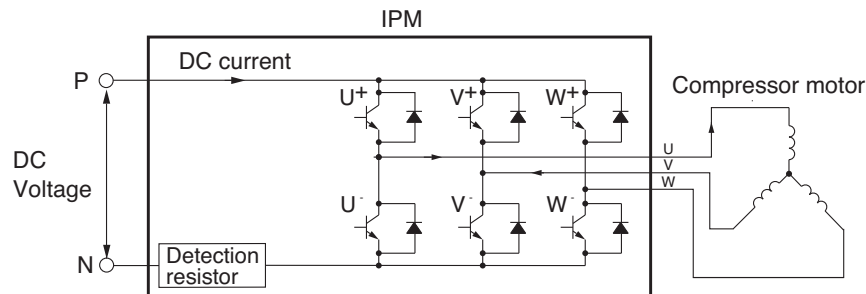

Fig. 6-6
- (1) Turns on the power module's U^+ and V^- transistors so the current flows to the motor windings as shown in Fig. 6-6.
- (2) Varies the turn-ON time of the U^+ transistor according to the DC voltage level and the start is controlled so the start current is approx. 10A .